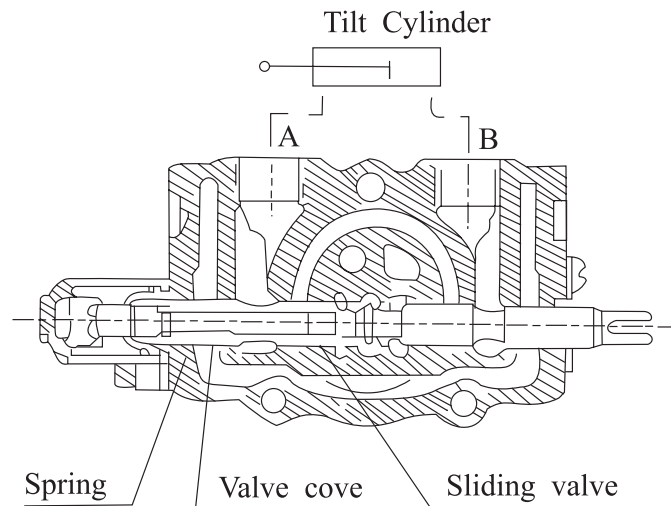

Fig. 7-11 Tilt lock valve
7.6 Operation of tilt lock valve (See Fig. 7-11)